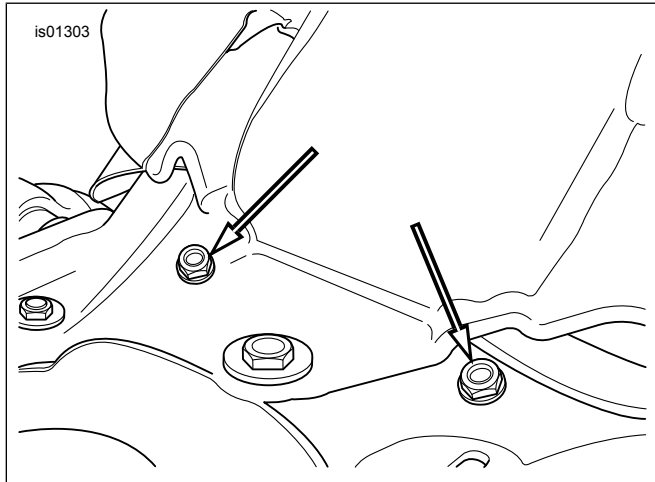

Figure 1. Remove Mud Flap Nuts (2002-2006 VRSCA/B/D)
2. See Figure 1. Remove the splash guard (mud flap) nuts.